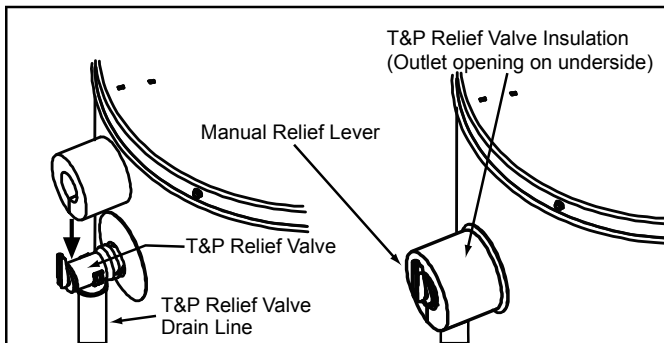

Figure 23.
Locate the temperature and pressure relief valve on the water heater (also known as a T&P relief valve). See Figure 23.
2. Spread the slit open and fit the insulation over the T&P relief valve. See Figure 23. Apply gentle pressure to the insulation to ensure that it is fully seated on the T&P Relief Valve. Once seated, secure the insulation with duct tape, electrical tape, or equivalent. **Important:** The insulation and tape must not block the discharge opening or hinder access to the manual relief lever (Figure 23). Ensure a discharge pipe is installed into the T&P valve discharge opening per the instructions in this manual.